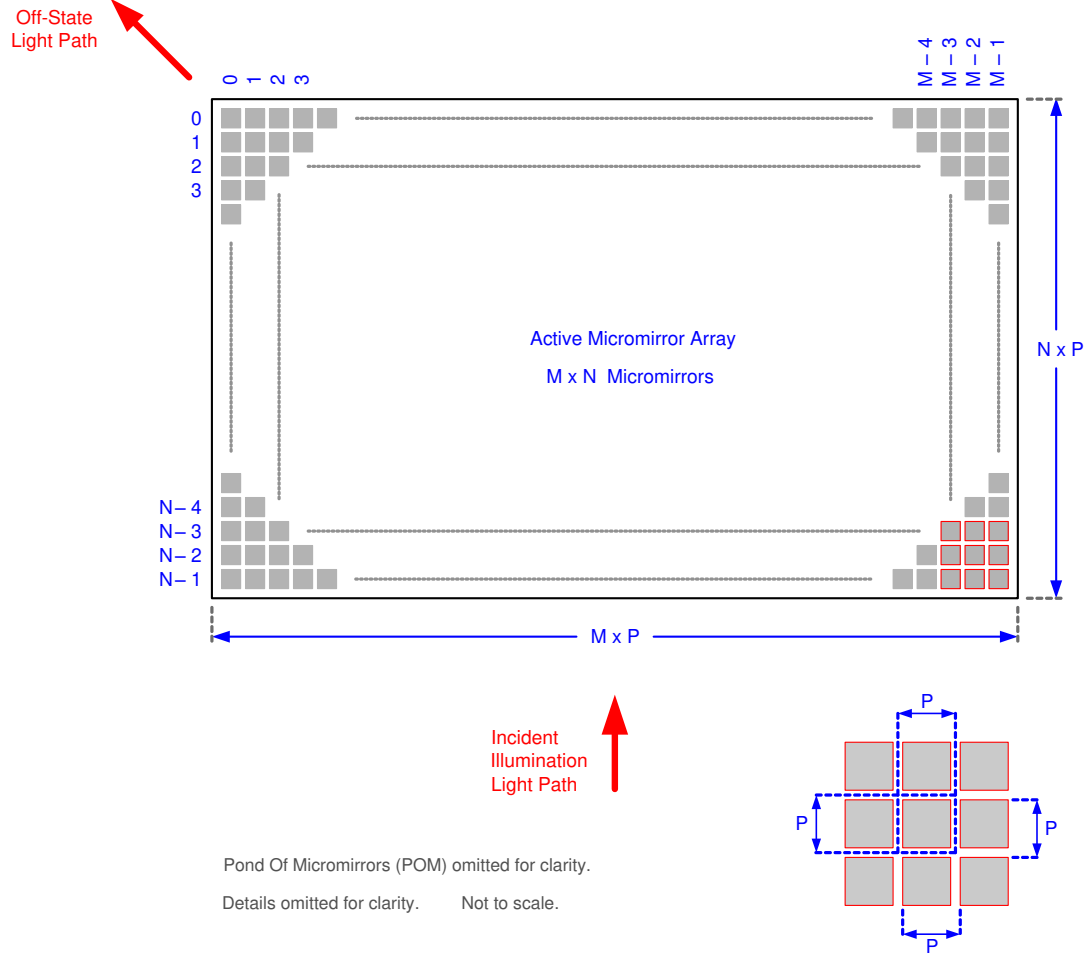

图 6-9. Micromirror Array Physical Characteristics
(1) See 图 6-9
(2) The structure and qualities of the border around the active array includes a band of partially functional micromirrors referred to as the pond of micromirrors (POM). These micromirrors are structurally and/or electrically prevented from tilting toward the bright or ON state but still require an electrical bias to tilt toward the OFF state.